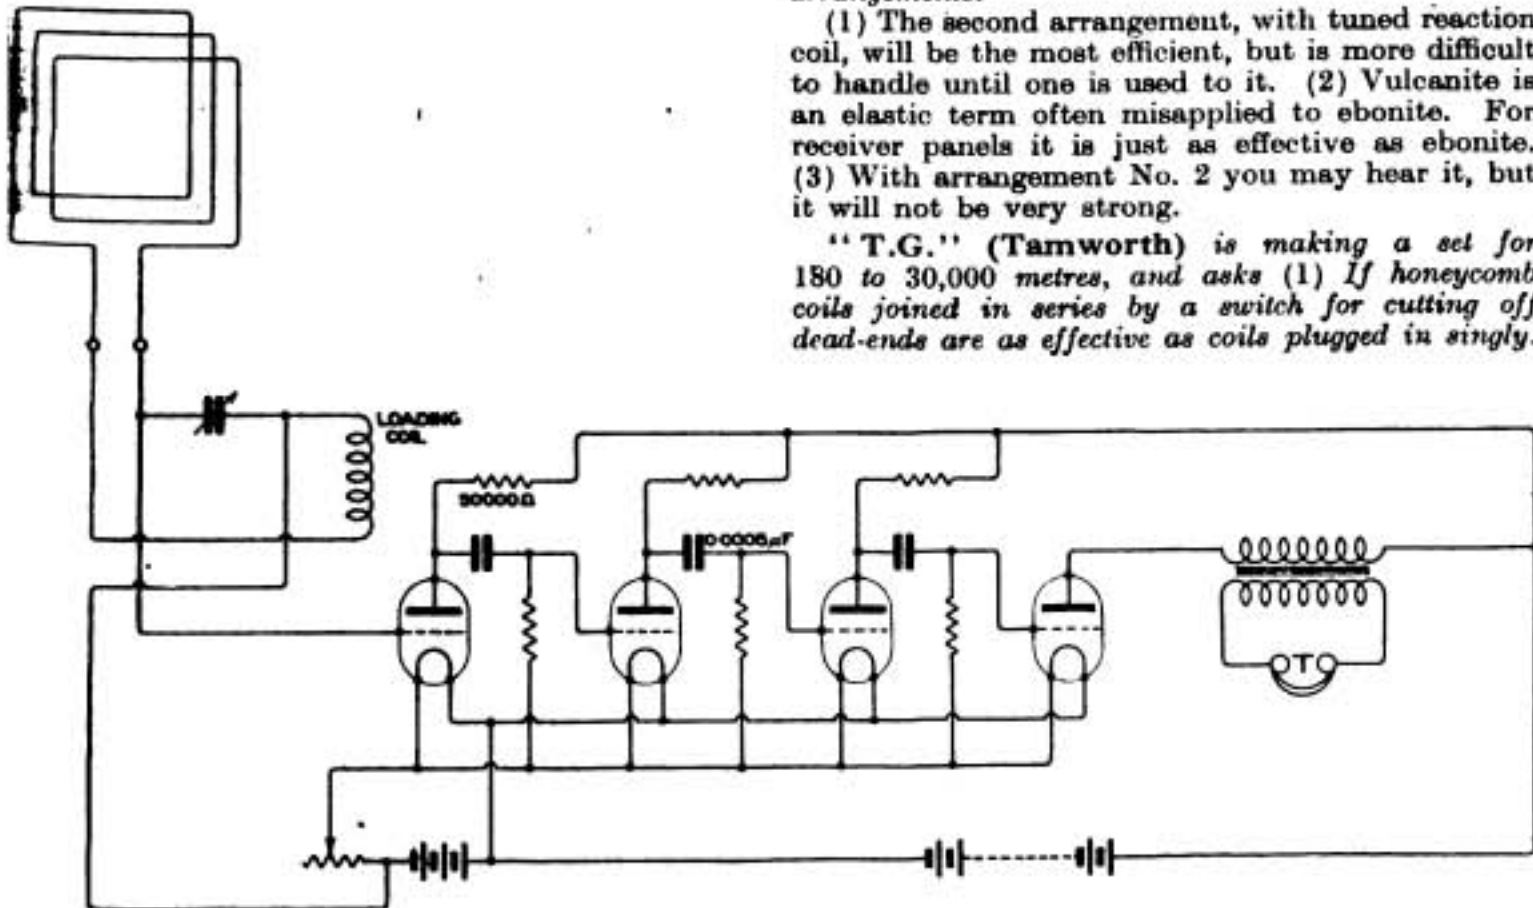

Fig. 1.
(1) For this purpose it will be advisable to have two H.F., one rectifier and one L.F. valve, used with a 4' or 6' frame aerial. For a suitable diagram see Fig. 1. (2) Four valves will require 3 amperes total filament current. It will be necessary to use a 6-volt 30 or 40 ampere hour accumulator. (3) It is essential to have some method of coupling between the valves. Transformers are better on short wavelengths, while resistance capacity coupling may be used for long waves.
(1) See Fig. 1, page 37, April 8th issue, but use A.T.C. at smaller value and connect it in series in the aerial circuit. (2) Aerial circuit 8" of windings of No. 28 D.C.C. on a 6" former, 19 tappings, making the final ones step over bigger portions than those at the beginning. Secondary (or reaction) circuit, 4" of winding of No. 32 S.S.C. on a 4½" former with four tappings at ¼", 1", 2" and end. (3) Very little would be gained.
(1) We do not recommend you to attempt this with PCGG, although it might be successfully accomplished with 2MT or any other high-power British broadcasts. (2) Use the circuit shown in Fig. 1, page 199, issue of June 25th, 1921. You may omit condensers C2, C3 and C4 and make transformers of precise values to suit wavelength, which are best found by experiment.